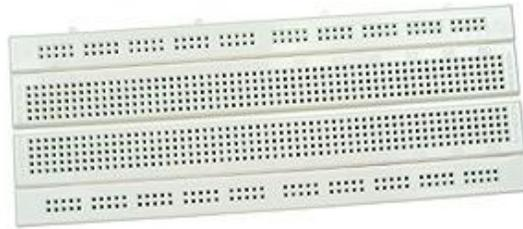

Figure 0.1: Picture of a breadboard.
The breadboard allows you to connect components and wire your circuit very easily and quickly. The breadboard consists of many holes for you to connect hook-up wires and integrated circuit (IC) chips. All of the holes are already connected together in groups. This way, you can connect two wires together (or connect a wire to an IC pin) simply by plugging the two wires into two holes that are already connected together. Figure 0.1 shows a picture of a breadboard and Figure 0.2 shows a layout of the breadboard.